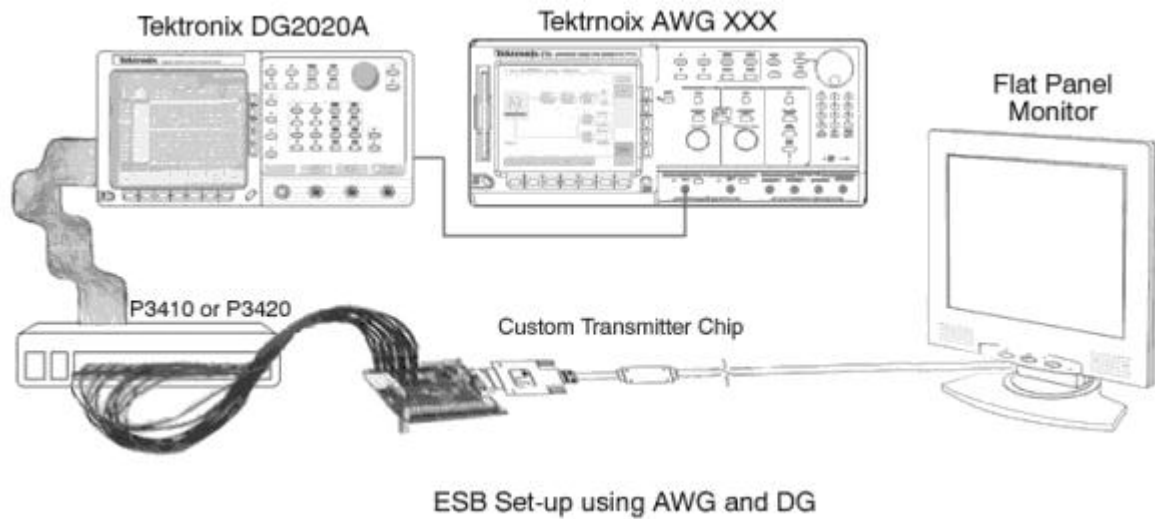

Figure 6-2: ESB board setup with AWG and DG
2. In Figure 6-2, AWGxxx serves as a clock source for the pattern generator (DG2020A).